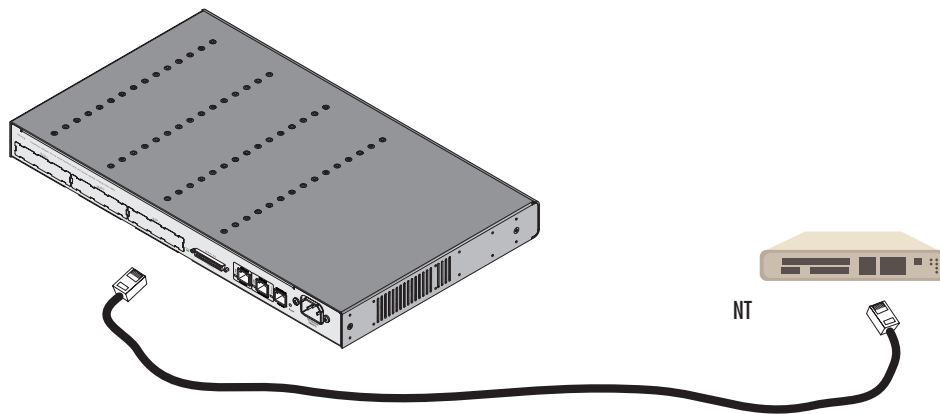
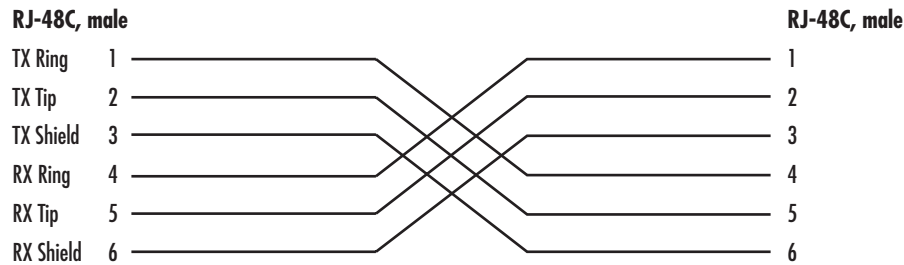

Figure 79. Connecting an T1 PRI port to an NT
Figure 80. T1 crossover cable
The PRI is usually connected to a PBX or telco switch—local exchange (LE). The type and pin outs of these devices vary depending on the manufacturer. In most cases, a straight-through RJ-45 to RJ-45 can be used to connect the PRI (see table 40 for IC-T1V card port pin-out listing) with a PBX (an NT) (see figure 79). A cross-over cable is required to connect to an LE, as illustrated in figure 80.